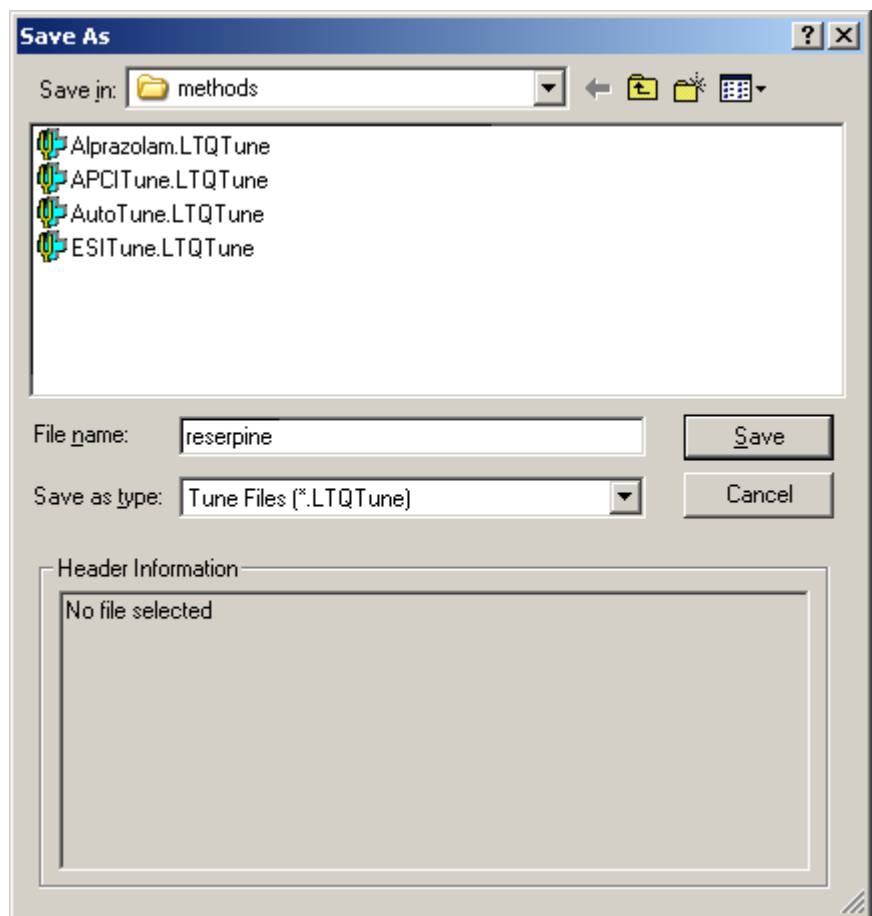

Figure 36. Save As dialog box, showing files in the folder *C:\Xcalibur\methods*
1. Choose **File > Save As** to display the Save As dialog box. See Figure 36.